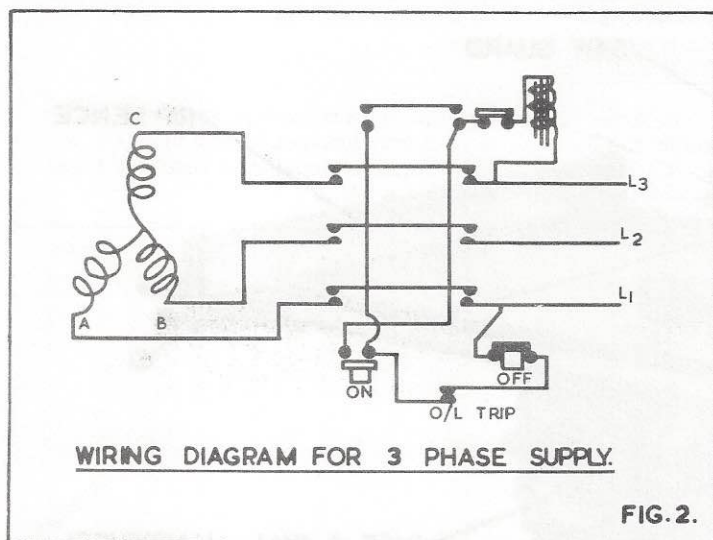
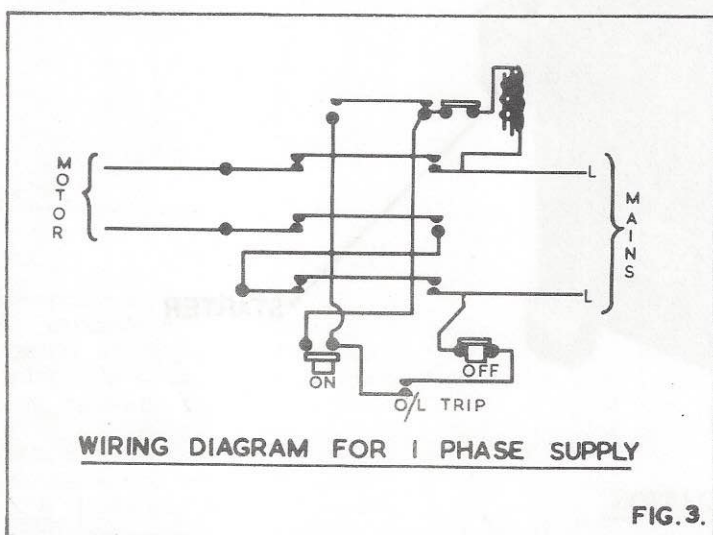

FIG. 2.
FIG. 3.
4. Connect the line leads to the appropriate terminals. See fig. 2 for three phase supply see fig. 3 for 1 phase supply.